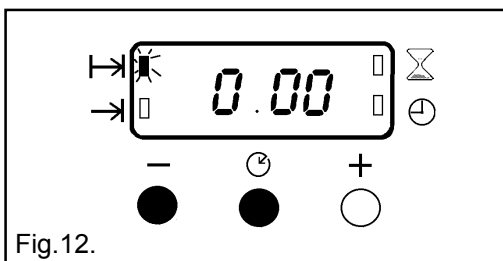

Fig.12.
- i) To cancel an automatic programme press the Selector Control button until the 'Cook Time' indicator neon (T→) neon flashes. Press the decrease control (-) until the display reads 0.00 as Fig. 12.